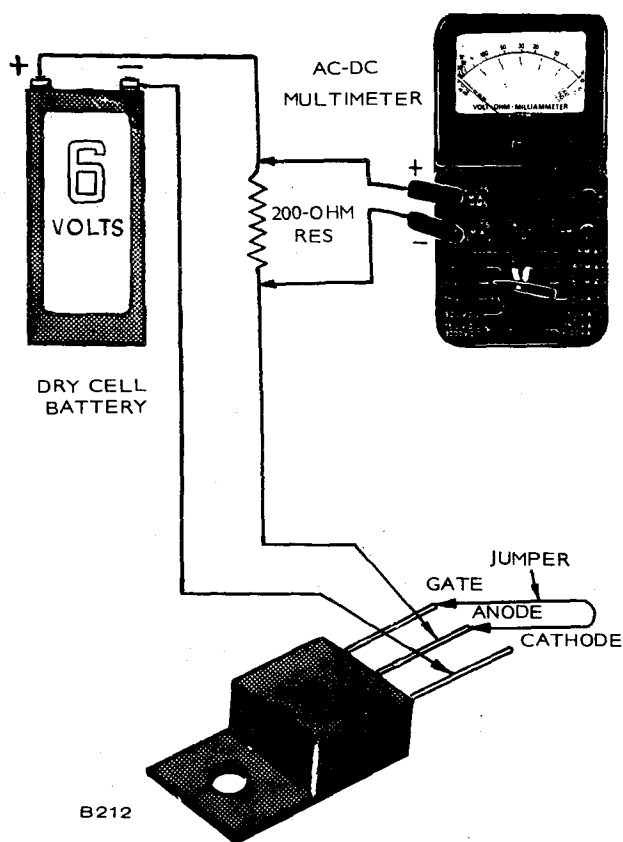

FIGURE 13. SCR VOLTAGE TEST
3. Using a 6-volt dry cell battery and a 200-ohm series resistor, observe correct polarity and connect battery leads to anode and cathode as shown in Figure 13. Observe polarity and connect a DC voltmeter across the 200 ohm resistor. The voltmeter should now read zero. Jumper anode to gate; voltmeter should now read 6-volts. Remove jumper; voltmeter should still read 6-volts because the SCR remains turned on until voltage is removed from anode to cathode.